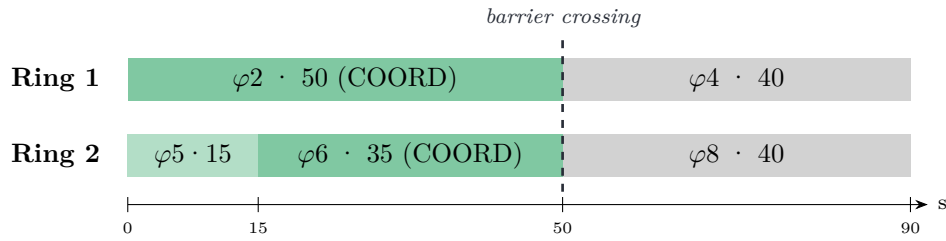

Figure 9: The same plan as Figure 8 as ring timelines. φ_5 is forced off at 15 s and φ_6 comes up; both rings cross to the side street together at 50 s.
2. **Match concurrent groups across rings** so companion phases open together: in Figure 9, $\varphi_5 + \varphi_6 = \varphi_2 = 50$ and $\varphi_8 = \varphi_4 = 40$. Mismatched groups make the rings hit the barrier at different times, and one direction sits dark waiting.
Sanity check: because the two rings time *in parallel*, each ring is its own full cycle budget. On a 90 s cycle, ring 1's splits total 90 **and** ring 2's splits total 90 — so all eight splits together total **180 s, twice the cycle**. That is parallelism, not overbooking: at every moment of the cycle one ring-1 window and one ring-2 window are open side by side (in Figure 9, while φ_2 owns 0–50 in ring 1, φ_5 and φ_6 split that same 0–50 in ring 2). The split column on the COORD screen is therefore best read one ring at a time — the R1/R2 tag beside each phase shows which ring (and A/B which barrier) it belongs to. If you instead spread the 90 s across all eight phases, each ring totals only ~ 45 , and the engine's normalization scales every green to about *twice* what you typed.